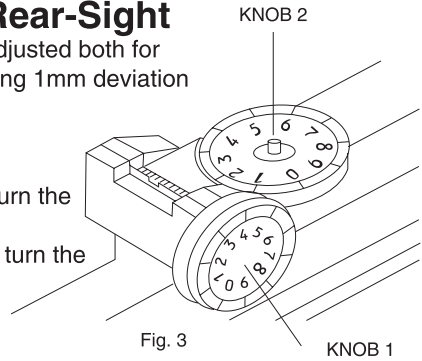

Fig. 3
- If the shot is deflected to the left of the target, turn the KNOB1 clockwise. (Fig. 3)
- If the shot is deflected to the right of the target, turn the KNOB1 counter-clockwise. (Fig. 3)
- If the shot is too high, turn KNOB2 clockwise. (Fig. 3)
- If the shot is too low, turn KNOB2 screw counter-clockwise. (Fig. 3)